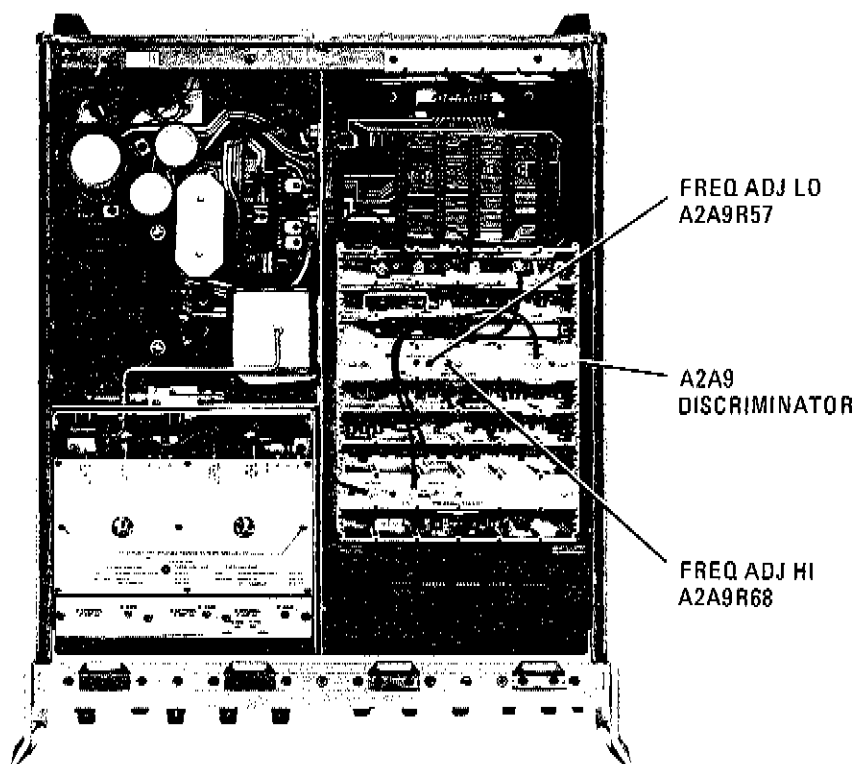

Figure A5-16. A2A9 Discriminator Adjustment Locations
- c. Adjust "FREQ ADJ HI" control A2A9R68 for (10) 0.000 MHz  $\pm 0.2$  MHz indication on FREQ COUNTER digital readout (See Figure A5-16).